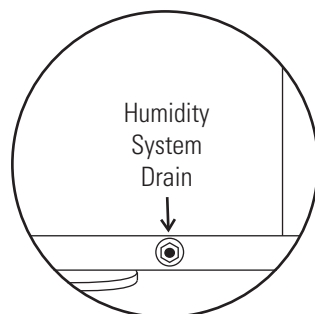

Figure 7-2. RH Drain
5. Connect the other end of the fitting to the quick-connect drain located below the fold-down storage door. See Figure 7-2. Allow water to drain. This may take several minutes.
3. Connect the other end of the fitting to the quick-connect drain located below the fold-down storage door (Figure 7-2). With the incubator turned On, allow the entire humidity system to drain. This could take several minutes.